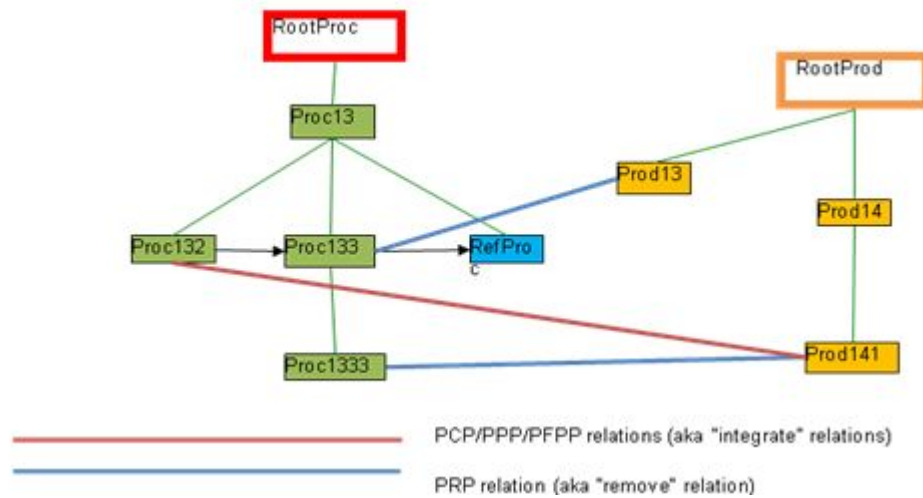

Figure 37: Removed State
- At least one predecessor process is linked with the product via a “removing relation”, and no other predecessor process is linked with the product via an “integrating relation”. For example, “Prod13” in Figure 37.
for each “integrating” process, such that the “removing” process is a successor of the “integrating” process. For example, “Prod141” in Figure 37.